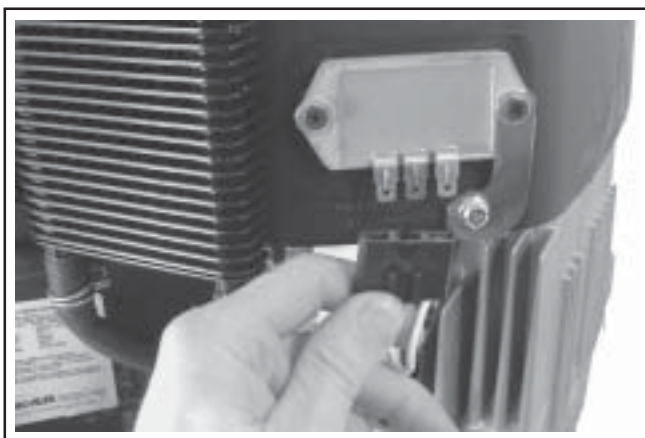

Figure 9-26. Disconnecting Plug from Rectifier-Regulator.
1. Disconnect the wire leads from the start switch on the blower housing (if so equipped). Disconnect the plug from the rectifier-regulator. Use the tip of the dipstick or a similar small flat tool to bend the locking tang, then remove the B+ terminal from the center position in the plug. See Figure 9-26. This will allow the blower housing to be removed without disturbing the wiring harness.